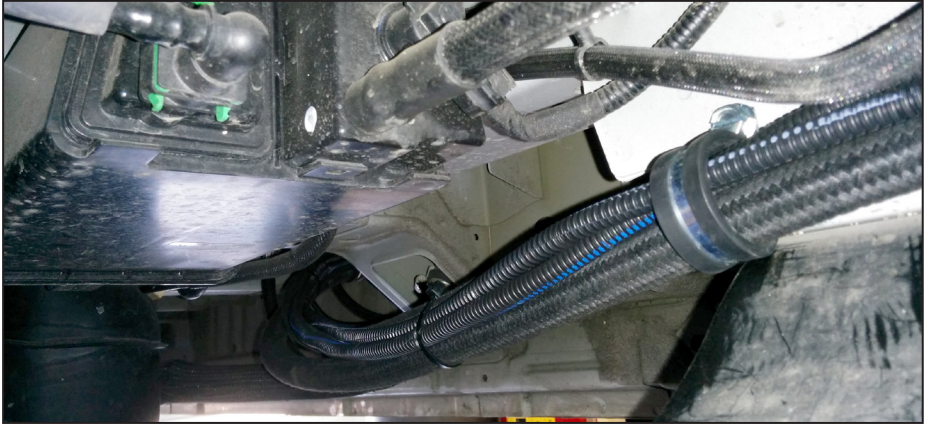
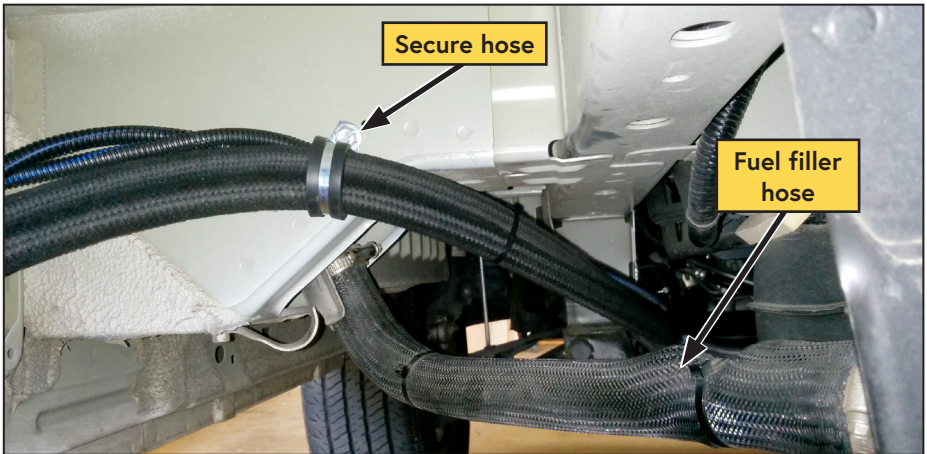

Figure 46 — Hose routing continued
Figure 47 — Hose routing above fuel filler hose
- Route the hoses above the fuel filler hose and toward the rear of the fuel filler housing (Figure 46, Figure 47).
- Secure the hose using the supplied P-clip and 5/16 in x 3/4 in sheet metal screw, in the location shown (Figure 47).